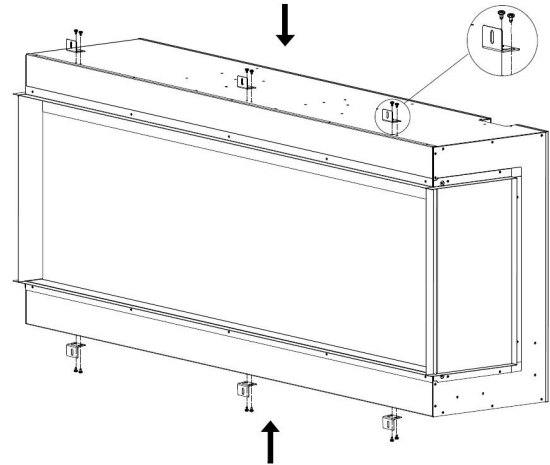

Fig.3-2
5.Fix the brackets with the screws in the previous step. Fig.3-2